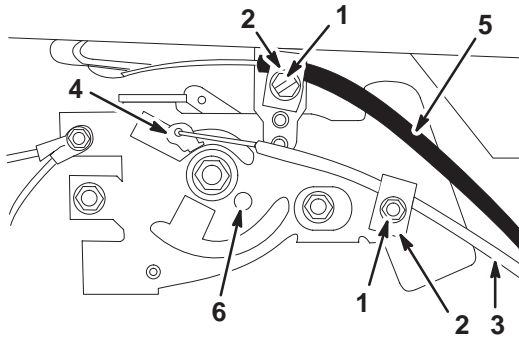

Figure 11
5. Connect the throttle cable to the speed control lever on the engine (Fig. 11).
7. Align the hole of the speed control lever with the hole in the base plate by inserting a 7/32-in.-diameter pin through both holes (Fig. 11).
9. Tighten the cable clamp screw (Fig. 11).